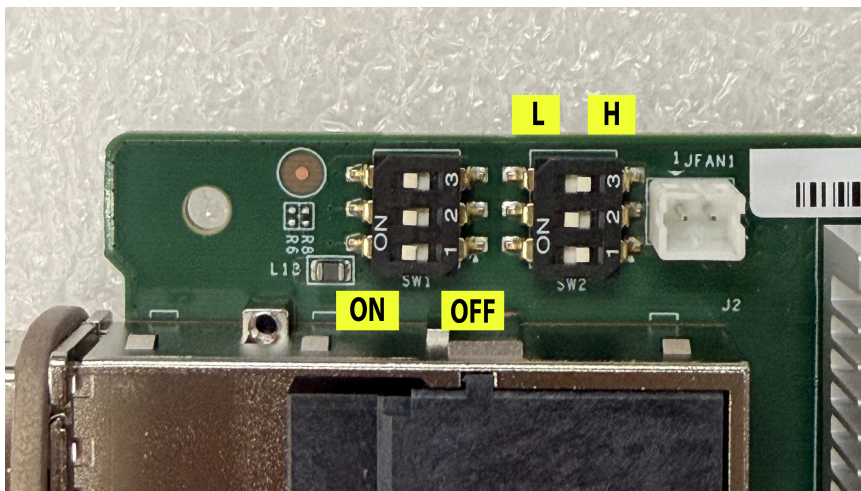

Figure 110. Host Adapter (D01) DIP Switch Settings for Firmware Update at Falcon side
- D01 DIP switch settings must be configured as follows(see Figure 110):